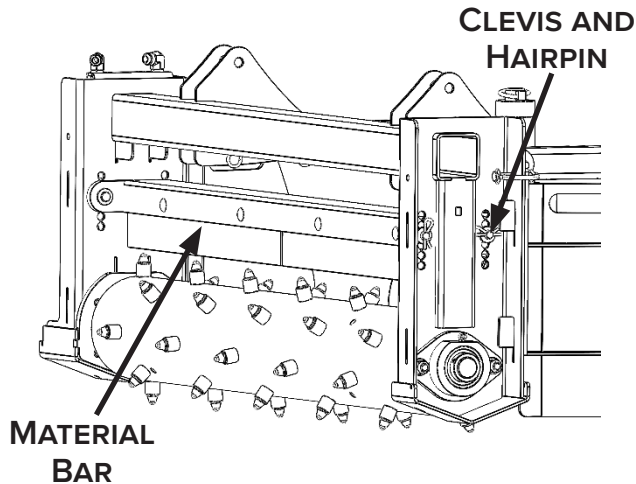

Figure 6
1. Remove hairpins from the clevis pins [Figure 6].